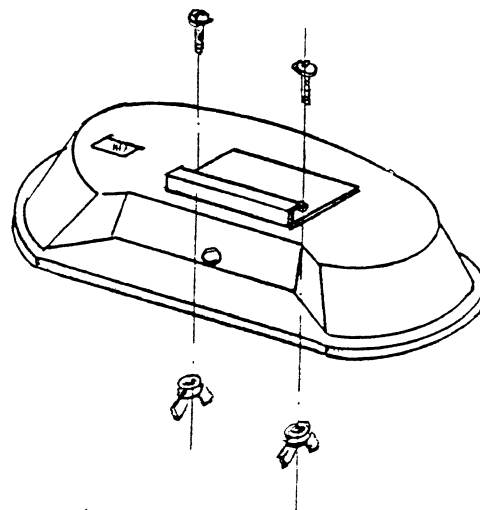

FIGURE 4
6. Using 2, 1/4" dia. x 3/4" truss head screws and wing nuts, attach the sheet-metal security clip to the top. (Figure 4)